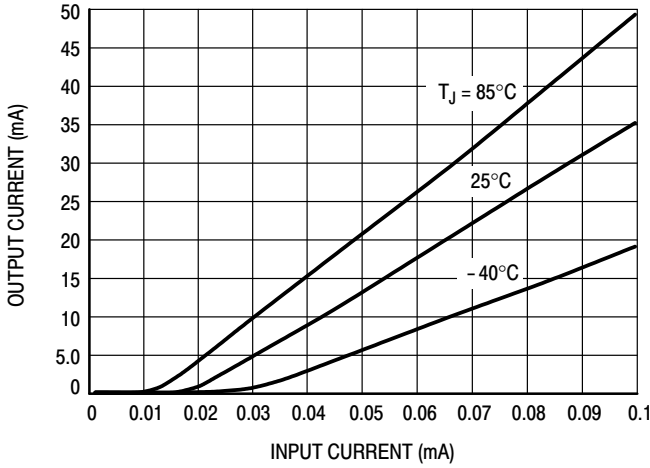

Figure 4. Threshold Effects
5. For levels of input current below 100 μA , use the input threshold curves of Figure 4 to verify that there will be adequate input current available to turn on the MDC3105 at all temperatures.